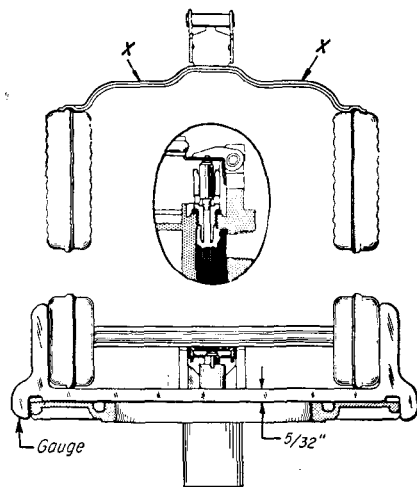

FIG. 10-22. Check of float-level height and adjustment of float assembly. (Buick Motor Division of General Motors Corporation)
3. On cover, install new seat and gasket if old float needle seat has been removed. Tighten seat firmly but avoid distortion. Attach float needle to float lever, and install float assembly with pin. Adjust float and lever assembly with special gauge in place as shown in Fig. 10-22. With gasket off, bowl cover inverted, and float assembly resting on seated needle, the floats should just touch the outer sides of the gauges and the lower bar of the gauge. Bend arms as shown at X in Fig. 10-22 to adjust.